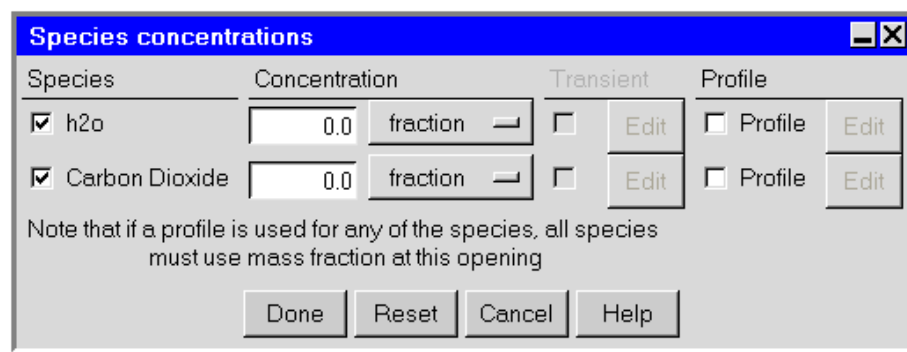
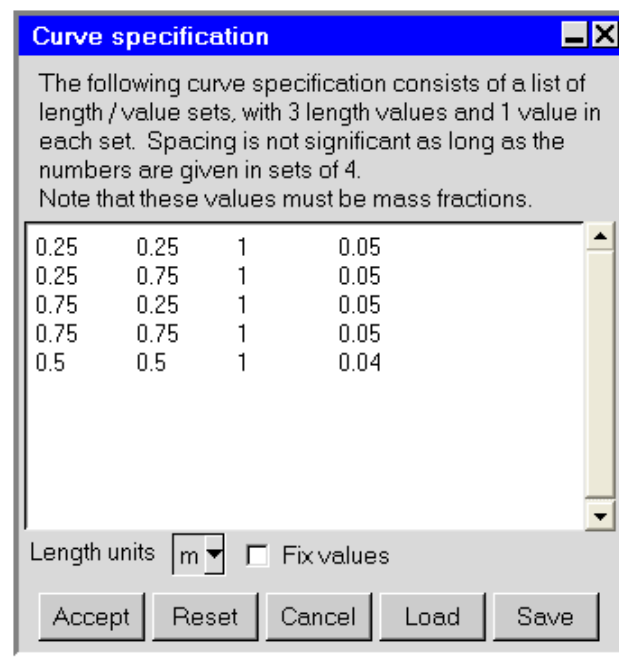

Figure 21.2.5: The Species concentrations Panel for a Free Opening
Figure 21.2.10: The Curve specification Panel
- i. Select the check box for each **Species** for which you want to set a concentration in the **Species concentrations** panel (Figure 21.2.5).
You can define a spatial boundary profile for the mass fraction of a species at a free opening using the Curve specification panel (Figure 21.2.10). To open the Curve specification panel, select Profile in the Species concentrations panel (Figure 21.2.5) and click Edit.
To define a profile, specify a list of (x, y, z) coordinates and the corresponding values in the Curve specification panel. For example, the first line in Figure 21.2.10 specifies a mass fraction of 0.05 at (0.25, 0.25, 1). The data in Figure 21.2.10 specify a variation